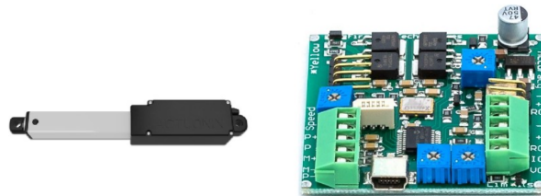

Figure 4: Linear Actuator and Linear Actuator Controller
After procuring multiple linear actuators of different specifications, I started testing these with the new dozer assembly. I assembled the actuators one by one using their compatible fasteners and mounts on the chassis. The actuated end of the actuator was connected to the yoke in the center (Figure 2). I connected the Linear Actuator Controller (Figure 4) with the actuator(also Figure 4) and the Arduino Due to control the actuator. For testing, a simple PWM HIGH(255) and PWM LOW(0) signal was sent, and the full range of the actuator, along with the lifting capacity, was tested.